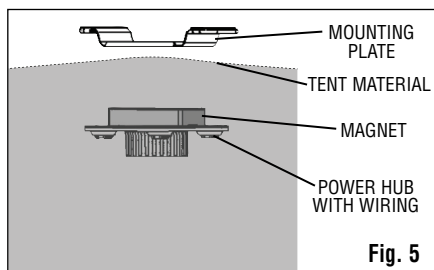

Fig. 5
2. While holding power hub with wiring stationary inside the tent, place mounting plate on the outside of the main tent fabric (not on outside of tent fly). Align mounting plate and magnet on power hub. (Fig. 5)